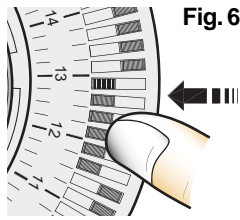

Fig. 6
1. Using your finger tip or the tip of a pencil, push in as many segments as necessary around the dial, according to the times you don't require heat – see **Fig. 6**. Each segment pushed in switches the heater OFF for that part of the hour. All other segments will be 'ON'.